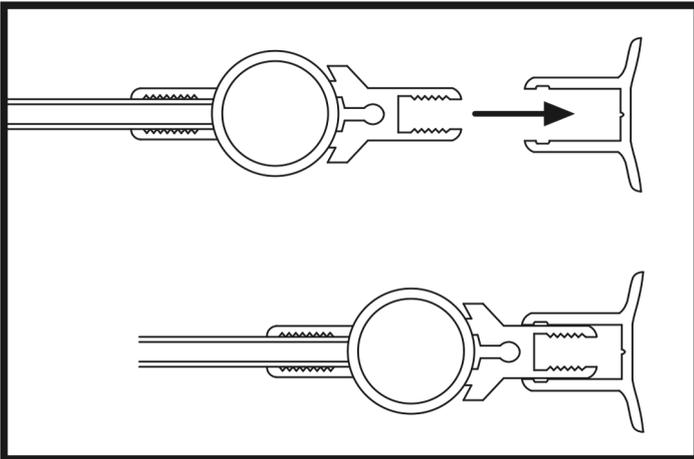

Figure 4
9. Carefully rest the bottom edge of the glass on the support blocks. Slide the mono-hinged glass into the wall-mounted hinge profile, with the movement directed toward the wall. (Figure 4)